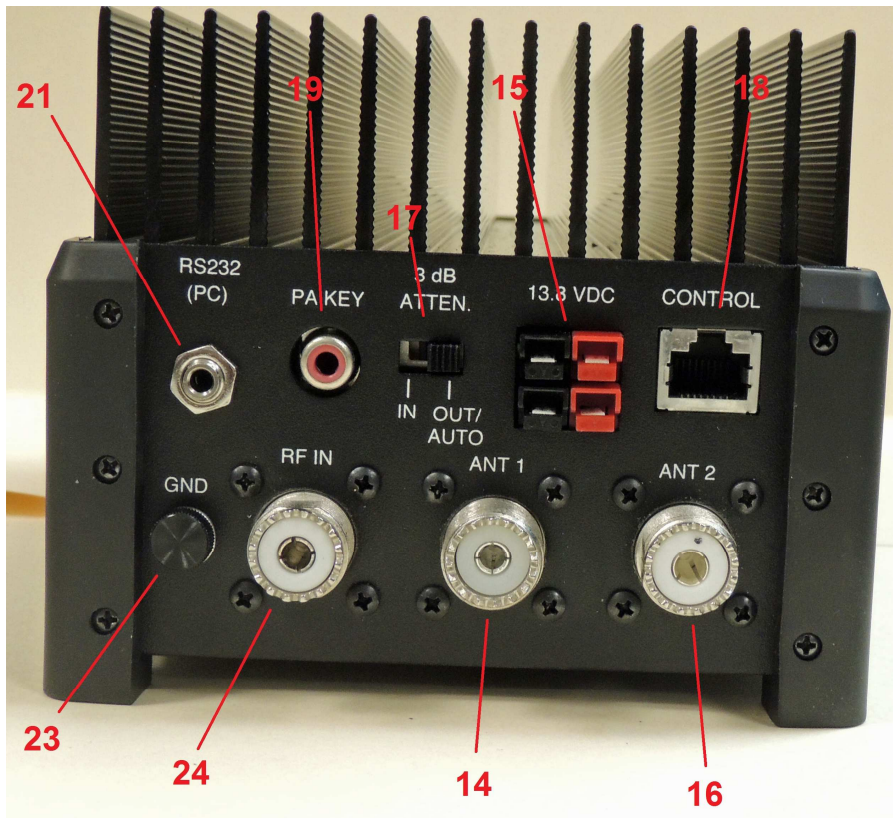

Figure 1. KXPA100 Rear Panel
1. Ensure a suitable 50 ohm load is attached to the ANT 1 connector on the rear panel (Figure 1, {14}). A dummy load is strongly recommended for initial tests.